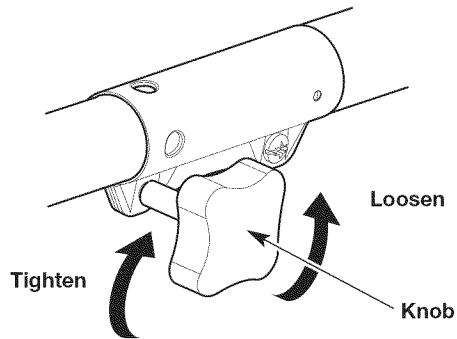

Fig. 3
3. Turn the knob counterclockwise to loosen the coupler (Fig. 3).
6. Turn the knob clockwise to tighten the coupler (Fig. 3).
2. Turn the knob counterclockwise to loosen the coupler (Fig. 3).
1. Turn the knob counterclockwise to loosen the coupler (Fig. 3). Refer to *Operating the Coupler* in the *Assembly* section.
4. Turn the knob clockwise to tighten the coupler (Fig. 3).